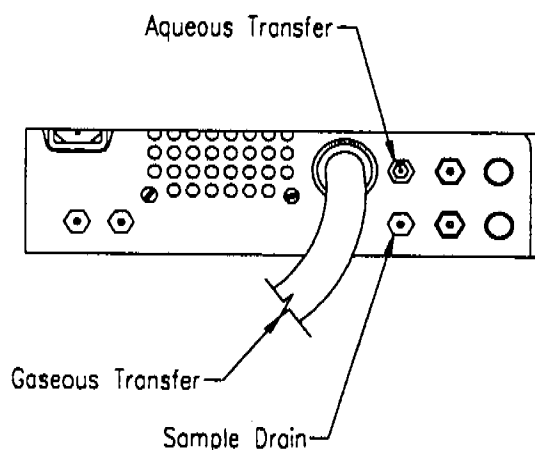

Figure 3-11 Aqueous Transfer Line Bulkhead on Precept II
5. Locate the transfer line fitting on the rear of Precept II. It is labeled "Aqueous Transfer." (See Figure 3-11.)